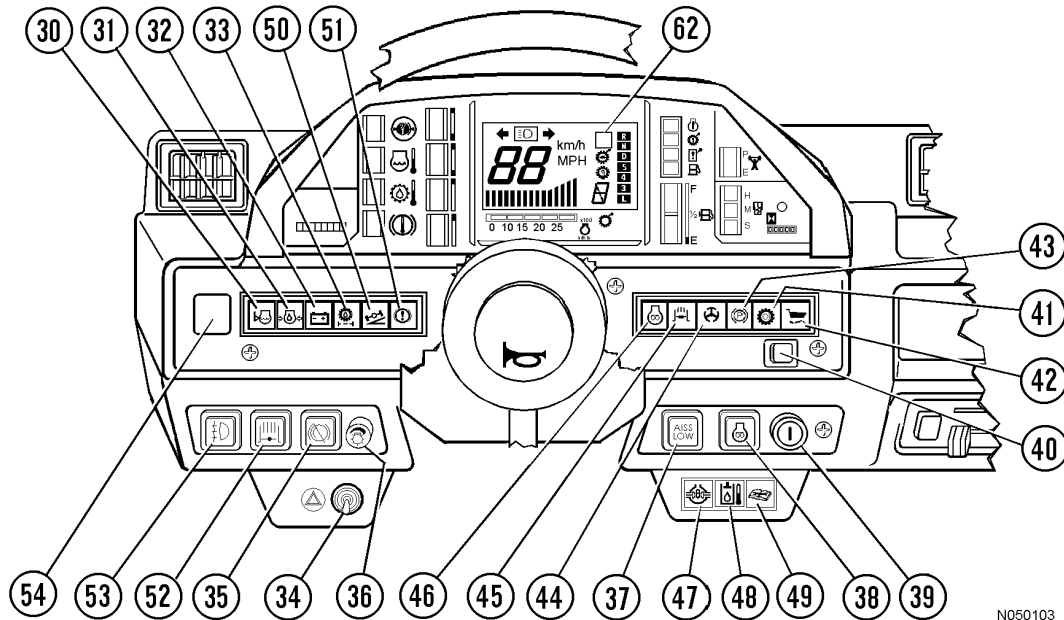

FIGURE 3-7. INDICATORS AND CONTROL PANEL
OPTIONAL EQUIPMENT (Figure 3-7)
- Fog Light Switch (53),
then the instrument panel arrangement for items 34, 35, and 36 will be as shown in Figure 3-7. If the truck is NOT equipped with either of these OPTIONS, then the standard panel arrangement for items 34, 35, and 36 will be as shown in Figure 3-8.
The Coolant Level Monitor (30, Figure 3-7) indicates a low radiator coolant level. If this monitor lamp flashes and alarm buzzer sounds, stop truck, shutdown engine, and add coolant as required. Action code "01" will be indicated.
The Hazard Warning Light switch (34, Figures 3-7, and 3-8) causes all turn signal lights to flash.
The AISS (Automatic Idle Selector Switch, 37, Figure 3-7) may be positioned to LOW or AUTO as desired. This switch is used by the operator to control the idle speed of the engine.
The Starting Switch (39, Figure 3-7) is a three-position key-switch:
The Maintenance Monitor Lamp (49, Figure 3-7) will illuminate if the PMC (Powertrain Management Controller), detects any of the following conditions: